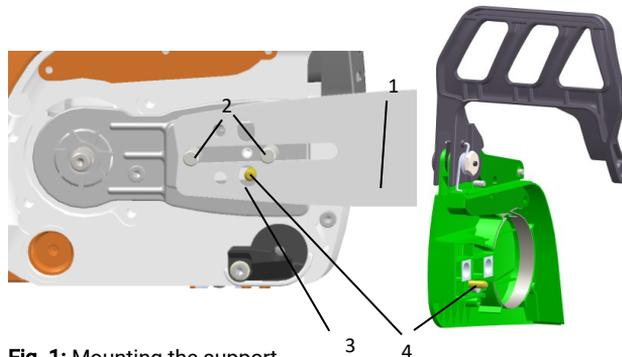

Fig. 1: Mounting the support
- > Place the guide bar (1 - Fig.1) between the screws (2 - Fig.1) in the same way as a normal chainsaw bar.
- > The hole (3 - Fig.1) in the support must be located at the chain tensioner driver. Depending on the type of chainsaw, this is mounted on the motor side or in the cover (4 - Fig.1).